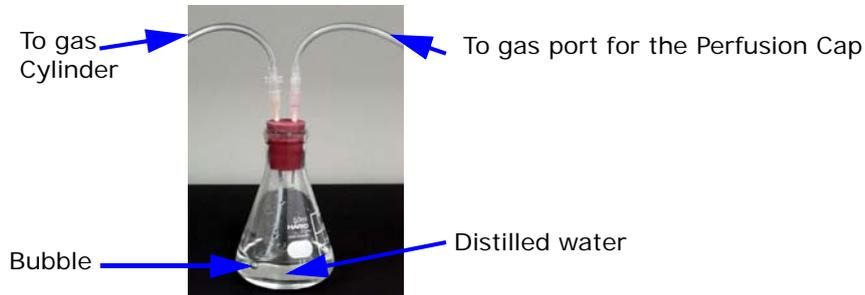

Figure 3-9. Moistening mixed gas before sent to the MED Probe.
3. Connect the oxygen ports of the Perfusion Cap to the port for mixed gas (O₂:95%, CO₂:5%). It is recommended that you humidify the gas using the flask containing water before sending to the MED Probe (Figure 3-9).